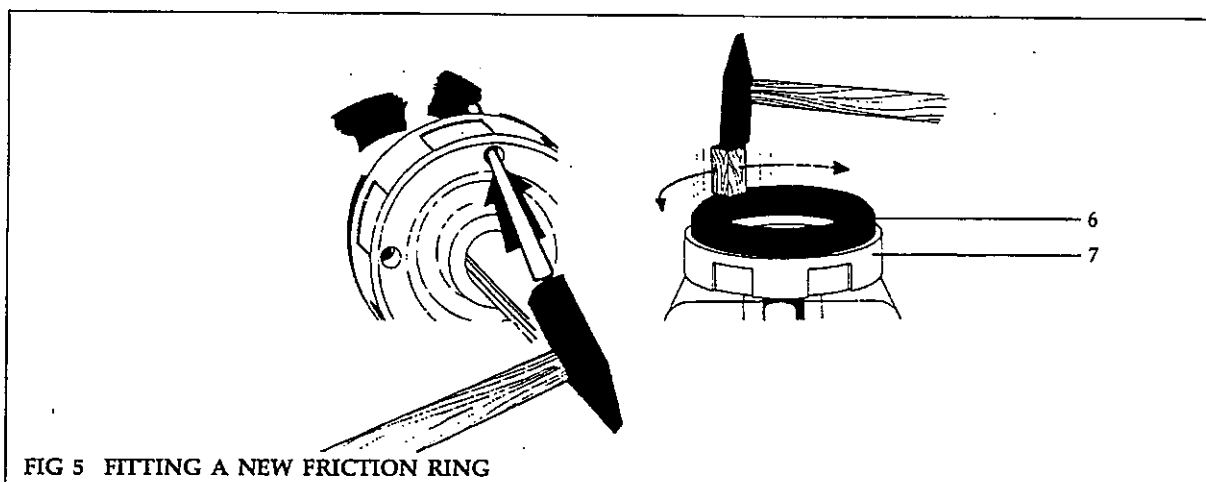

FIG 5 FITTING A NEW FRICTION RING
If the drive slips; the friction ring in the unit is either oily, or worn, and will require cleaning or replacement, (see Fig 5).
- (5) Refit friction ring into unit (fitting instructions are supplied with a new ring), (see Fig 5).
- (6) Reassemble unit drive elements and casing, ensuring that the friction ring is centred on the cone (see Note in Motor Attachment and Cone Adjustment).
- (7) Secure unit casing elements with the setscrews (4) removed on disassembly.
- (8) If removed on disassembly: Refit motor to drive mounting slide (2) on the unit using the four setscrews (1).
- (9) Top up gearbox lubricant (Wadkin Ref.) to sightglass level. The sightglass is on the right side viewed from the infeed end.